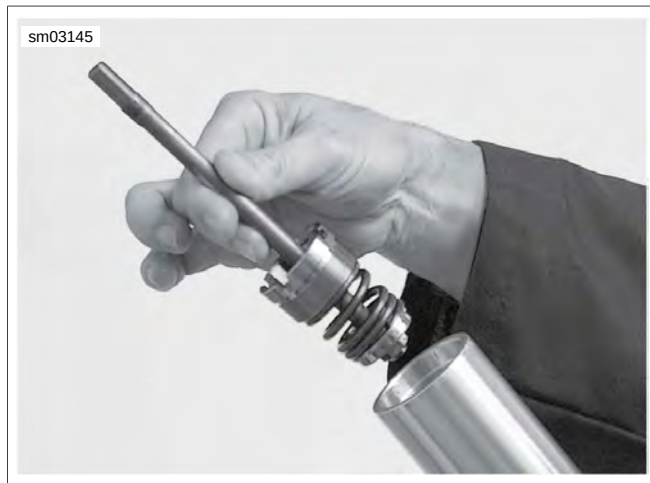

Figure 2-95. Inner Fork Nut
4. See Figure 2-95. Remove inner fork nut assembly from fork tube using INNER FORK NUT REMOVER/INSTALLER (Part No. HD-47852).